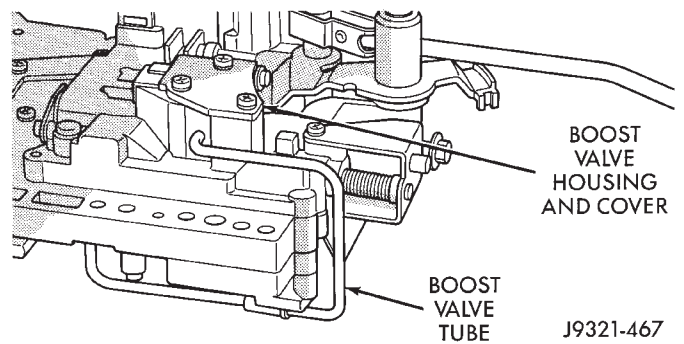

Fig. 52 Boost Valve Cover Location
- (12) Remove boost valve cover (Fig. 52).